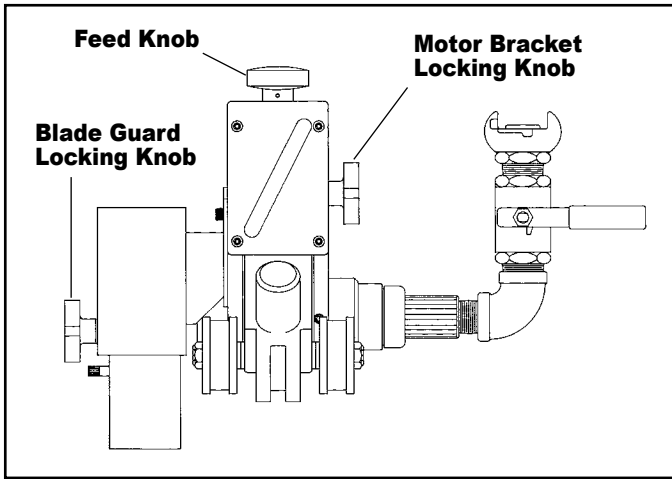

FIG. 4
1. Loosen motor bracket locking knob. (Fig. 4)
2. Retract motor bracket to uppermost position, by turning feed knob counterclockwise. (Fig. 4)
2. Turn cutter feed knob clockwise. (Fig.4) Lower motor and cutter close to, but not touching the pipe. Motor bracket locking knob should be tight, yet allow the bracket to slide.
- 2.\* Knowing the thickness of pipe to be cut, turn the feed knob clockwise, (Fig. 4) until the pointer indicates the desired depth of cutter. Allow at least 1/4" of blade beyond depth of cut.
\*Exception to this would be if the bevel cutter was being used for plastic, then the cutter would be engaged until the bevel cutter began cutting. At this point the depth gage pointer could be used to determine amount of bevel. Full engagement produces a 15/16" bevel. (Fig. 4)
3. Tighten motor bracket locking knob. (Fig. 4)
4. Tighten blade guard locking knob approximately 1/8" from pipe. (Fig. 4)